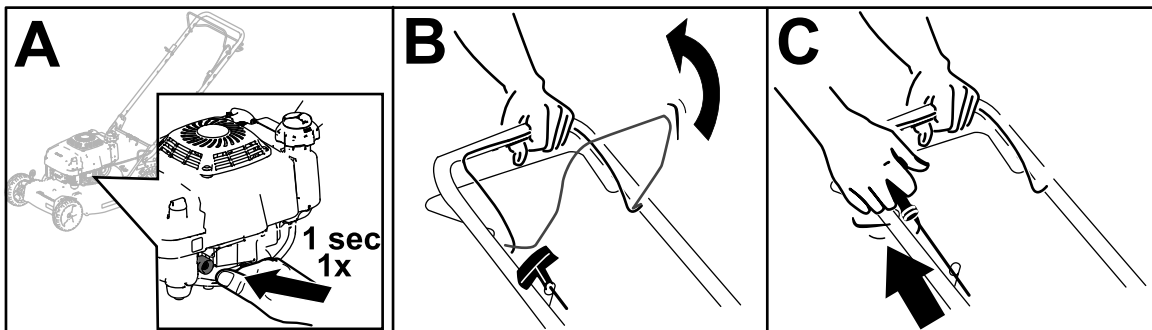

Figure 14
1. Firmly push and hold the primer for 1 second (A of Figure 14).
2. Hold the blade-control bar against the handle (B of Figure 14).
3. Pull the recoil-start handle (C of Figure 14).